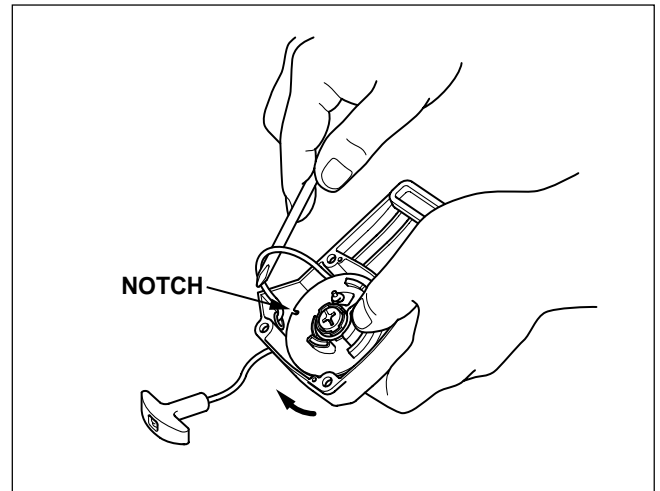

Fig. 9-1
- (1) Remove the recoil starter from the engine.
- (2) Pull out the starter knob, hold the rotary reel with your thumb as shown in Figure 9-1 when the reel notch gets aligned with the starter rope outlet, and pull the starter rope to inside the recoil starter with a screwdriver.
- (1) Pull the starter knob a few times to check if:
- (2) Pull out the starter knob to extend the rope to its extreme to see if:
- A. The starter rope still remains in the rope slot of the reel, unwind the rope by 1 to 2 turns as shown in Fig. 9-1, as the spring may be over-stressed.